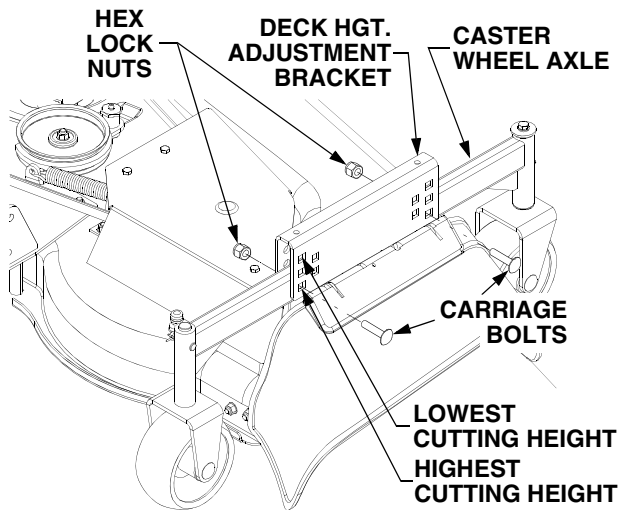

Figure 59
Refer to Figure 59 and adjust the deck cutting height as follows:
- Working from either the *left* or *right* hand side of the deck, support the caster wheel axle and remove the two carriage bolts and hex lock nuts. See Figure 59.
- Align the caster wheel axle with two corresponding lower index holes to raise the cutting height, or corresponding upper holes to lower the cutting height. See Figure 59.
- Check that the deck is in the lower cutting height position. If it is not, raise the deck, remove the hex lock nuts and carriage bolts, and reposition the caster wheel axles in the lower cutting height position (Refer to Figure 59). Lower the deck to the ground and stop the engine.